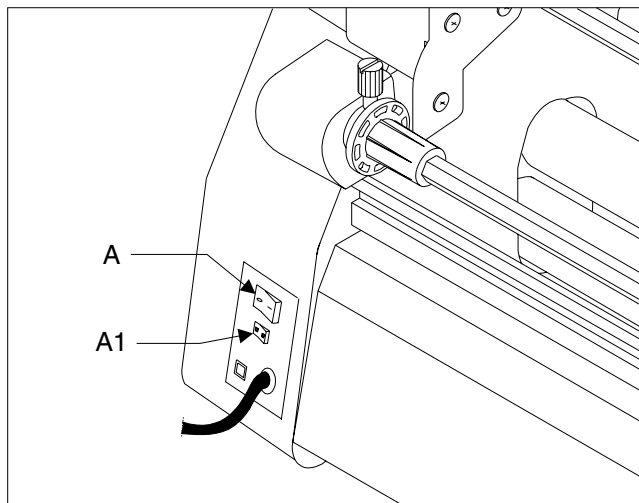

Fig. 1
**A. POWER SWITCH:** Fig. 1. Located at the back of the machine applies power to the laminator. The LED display panel will illuminate when position marked "I" is pushed. The off position, marked "O", removes power from the laminator.
**A1.FAN SWITCH:** Fig. 1. Located at the back of the machine applies power to the fans when position marked (⊠) is pushed. The off position marked (⊡) removes power from the fans.